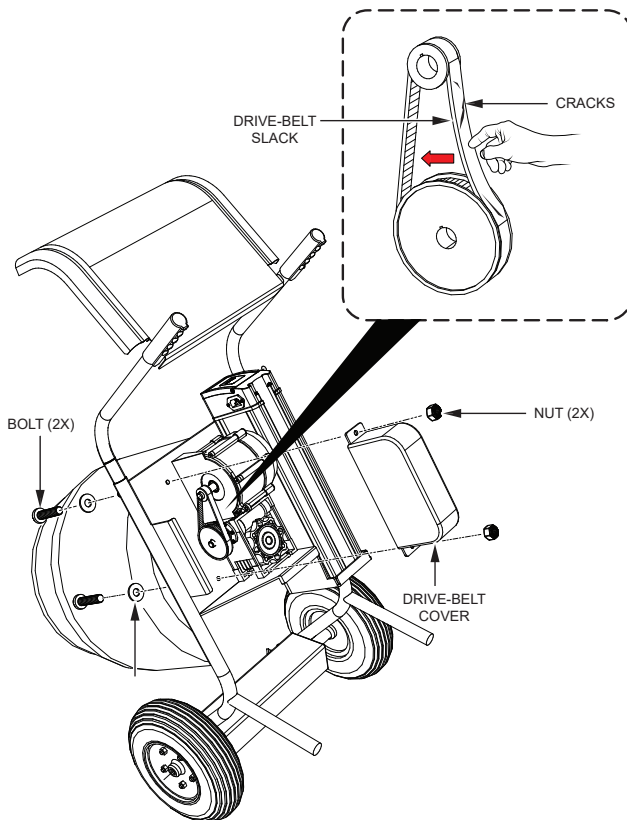

Figure 26. Drive Belt Inspection
1. Remove the drive belt cover as shown in Figure 26.